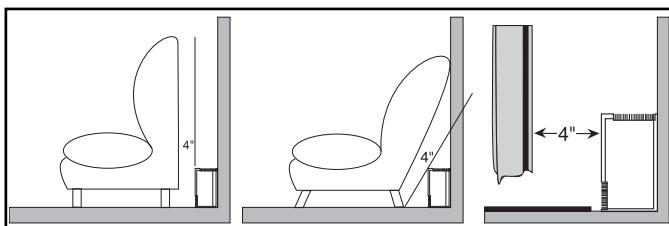

Figure 1: Furniture & Drapes
**WARNING: Hazard of Fire. Furniture must be placed no closer than four inches from the heater (see Figure 1).**
**WARNING: Hazard of Fire. Drapes must clear the top of heater by at least twelve inches; or, if floor length drapes are used, they must clear the finished floor by three inches and the minimum clearance from the back fold to the front cover should be at least four inches (see Figure 1).**